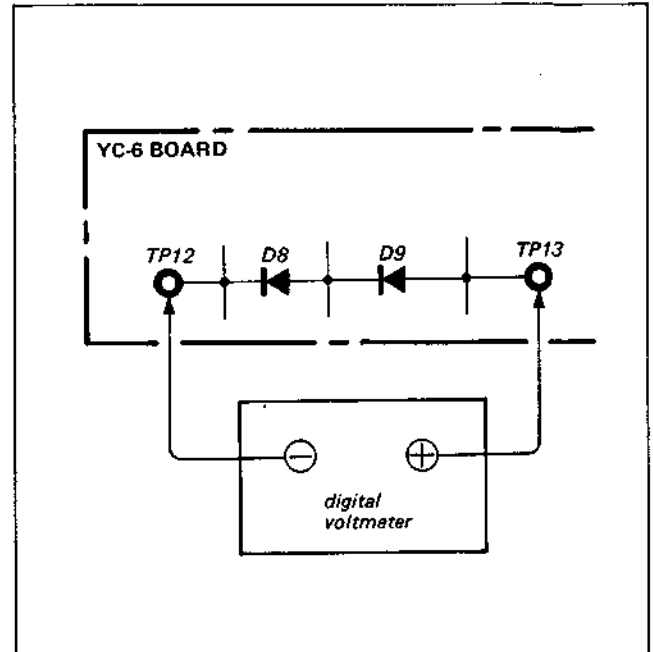

Fig. 4-4-18. Measurement points
- (1) Do not supply the VTR with any signal and set up the E-E mode.
- (2) Connect the digital voltmeter to the points shown in Fig. 4-4-18.